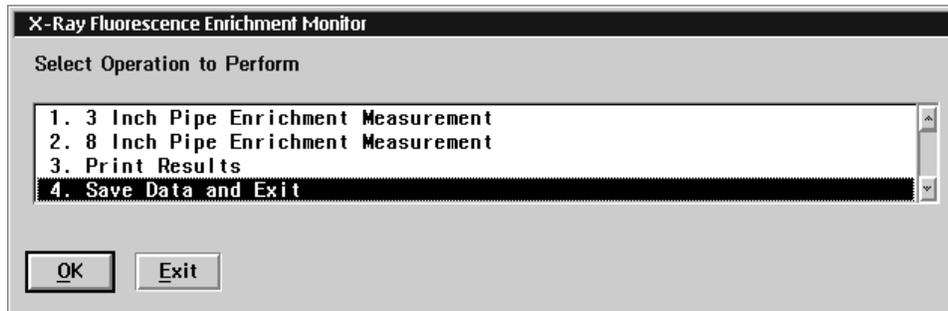

Figure 39. Main menu indicating selection of “Save Data and Exit” to save data and exit the XRF software.
27. Once back in the main menu, measurement for either pipe can be repeated. If all measurements are completed satisfactorily, or if the program must be exited to repeat the energy calibration, select “Save Data and Exit” as shown in Figure 39 to save results and exit the program. In other menus, the “Exit” button will exit the program and may result in the loss of data, but in this menu the “Exit” button will exit the program without loss of data.